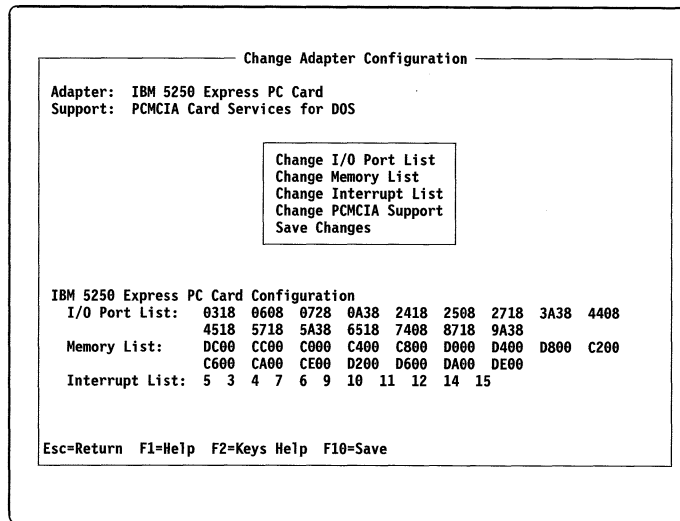

Figure 17. Change Adapter Configuration Screen
4. From the 5250 Adapter Configuration Menu, select the Change Adapter Configuration option. The Change Adapter Configuration screen, similar to the one shown in Figure 17, appears.